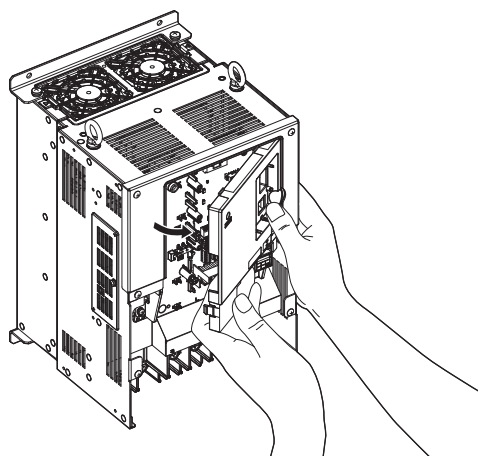

Figure 3.14 Remove the Front Cover (Models CIMR-L□2A0085 to 2A0415 and 4A0045 to 4A0216)
4. Unhook the left side of the front cover then swing the left side towards you as shown in Figure 3.14 until the cover comes off.